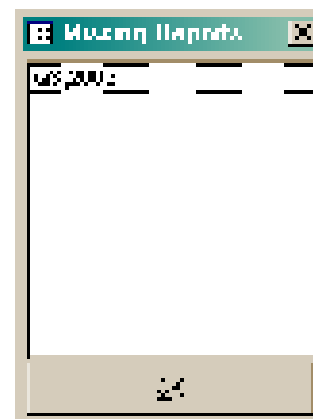

Figure 8.22 Missing Reports window.
- The Missing Reports button shows the reports that were not available for calculating need. If reporting is complete, this window should not display any reports. Click Missing Reports to display the reports not available for calculating need. The Missing Reports window (Figure 8.22) is displayed. If missing reports are listed, try to acquire the reports and record them in the Product Tracking Form. Complete reporting will help ensure that the facilities are stocked according to plan.